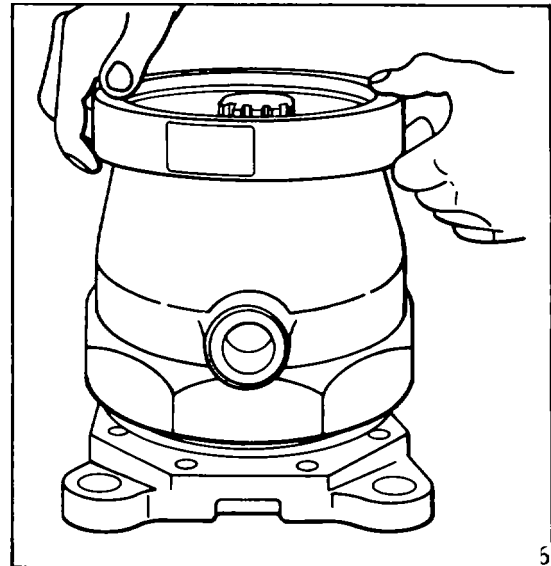

Figure 196.
Lift off housing (3) from mounting flange (2). See Fig.196. Remove O-ring (56).